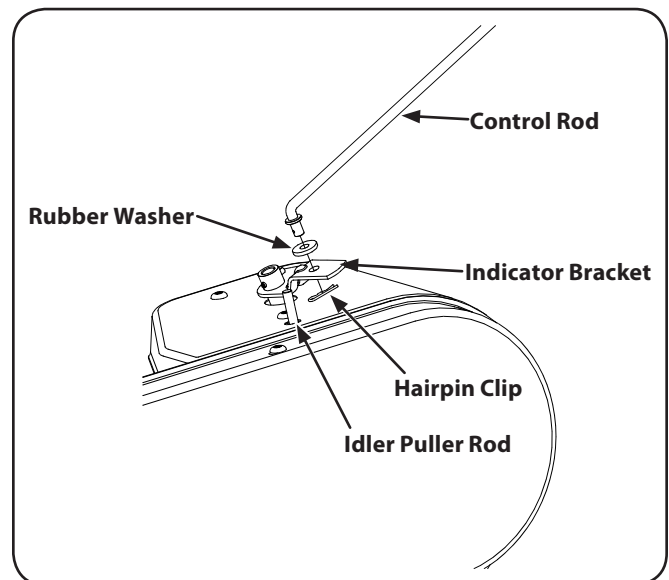

Figure 6-1
3. Remove the hairpin clip and spring washer from the idler pulley rod. See Fig. 6-1.